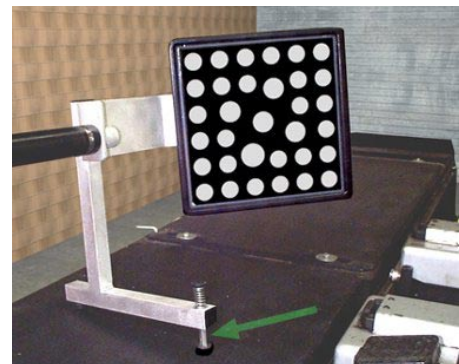

Figure 3-86
14. After a period of time a message is displayed to raise the plunger on the double leg bracket. (Figure 3-86) This will cause the images to rotate on the screen. Click on **<OK>** when one.